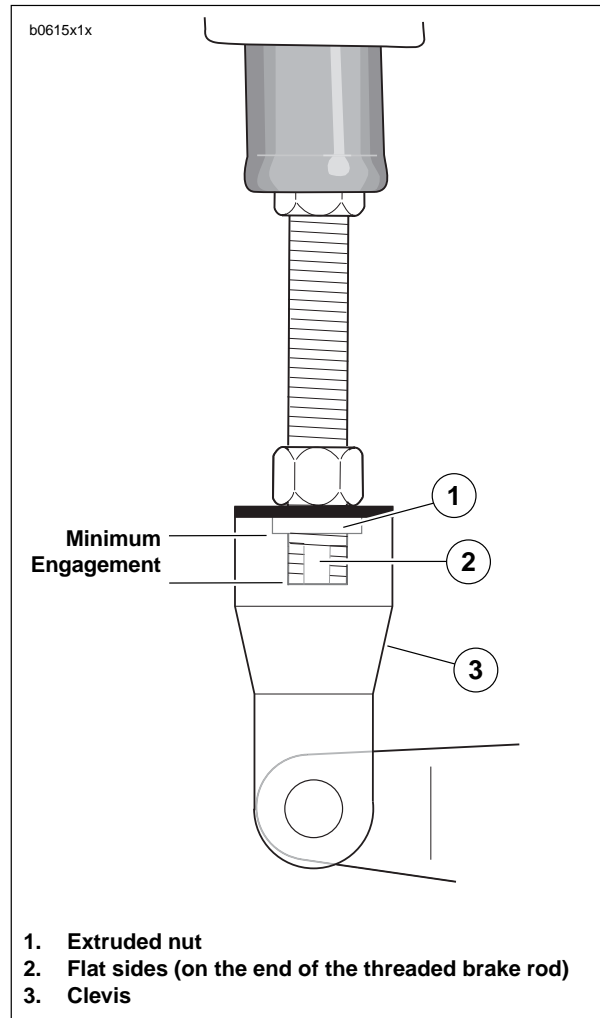

Figure 1-12. Critical Measurements with Typical Brake Pedal
- See Figure 1-12. On the very end of the threaded brake rod, are two flat sides (2). To ensure proper thread engagement with the clevis (3), the flat sides must extend below the extruded nut (1) in the clevis by at least one full thread. This is the minimum rod engagement.